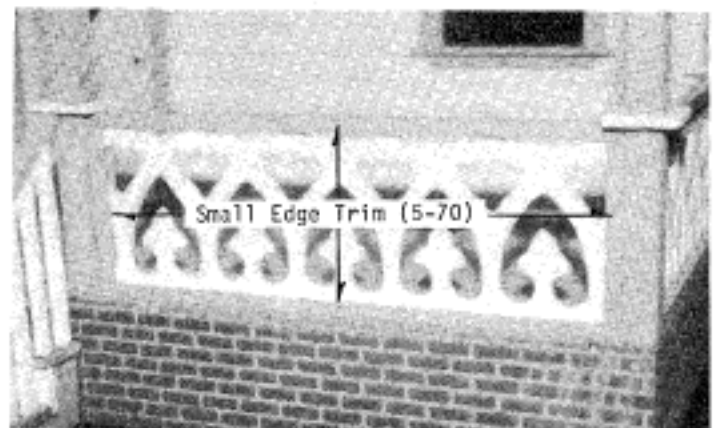

Figure 25
5. Using Universal Trim (Part No. 5-70), cap all edges of the Porch Rails. Figure 25.